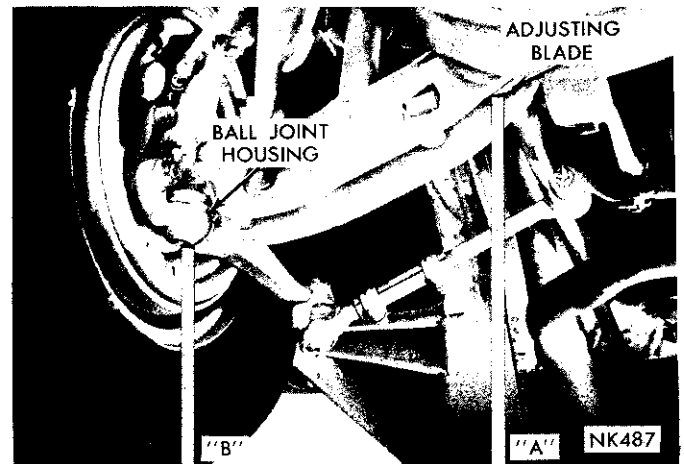

Fig. 2—Measuring Front Suspension Heights (Chrysler)
(4) **On Chrysler Models**, measure the distance from the lowest point of one of the adjusting blades to the floor (measurement A) and from the lowest point of one of the steering knuckle arm to the floor (measurement B) (Fig. 2).
(5) Refer to specifications for the differential between measurement A and B.
(6) Measure the other side in the same manner. The difference from side to side should be no more than 1/8 inch.
(7) Adjust if necessary by turning in the torsion bar adjusting bolt to increase the height and backing off the bolt to decrease the height.
(8) After each adjustment, jounce the vehicle before rechecking measurements. Both sides should be measured even though only one side has been adjusted.